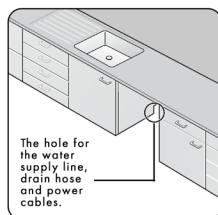

Figure 1-1
1. Using a hole saw, cut a hole into the side of the cabinet that hold the sink as shown in Figure 1-1 below.